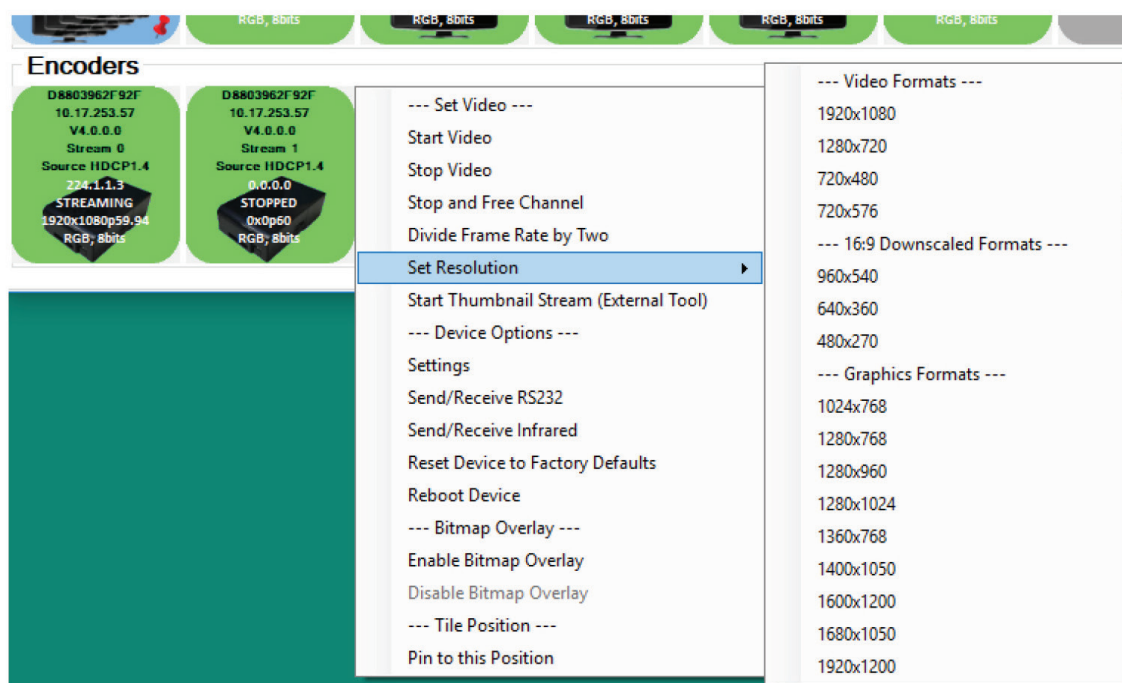

FIGURE 4-15. CHANGING MULTIVIEW RESOLUTION
- ♦ Refer to Figure 4-15, Changing Multiview Resolution.